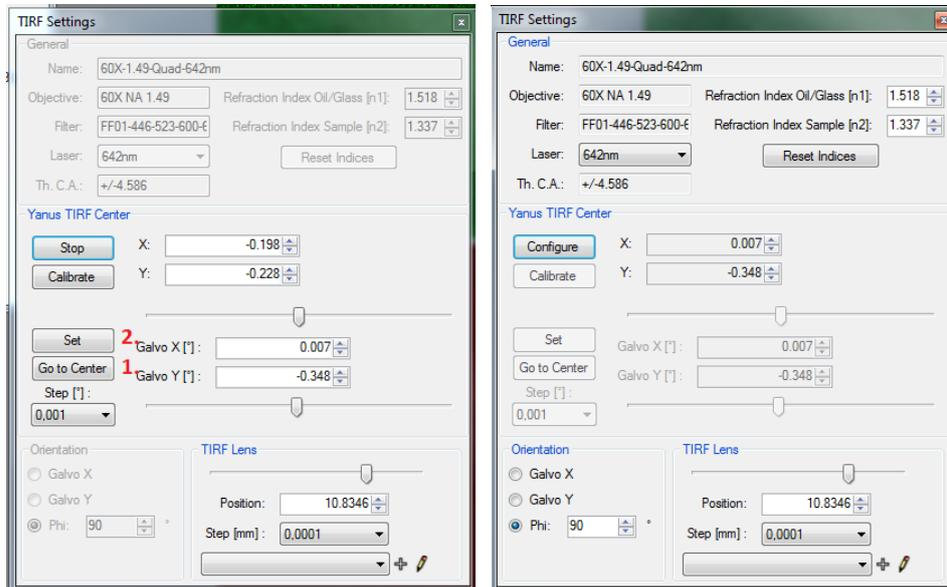

Fig. 3
- When you have done the calibration for preset: 60X 1.49-Quad-488nm you can then choose preset: 60X 1.49-Quad-642nm for instance and open the “settings” Fig.3